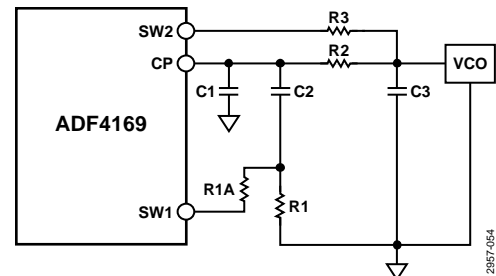

Figure 53. Fast Lock Loop Filter Topology 2
- Connect an extra resistor (R1A) directly from SW1 (see Figure 53). The extra resistor must be selected such that the parallel combination of an extra resistor and the damping resistor (R1) is reduced to $\frac{1}{4}$ of the original value of R1.